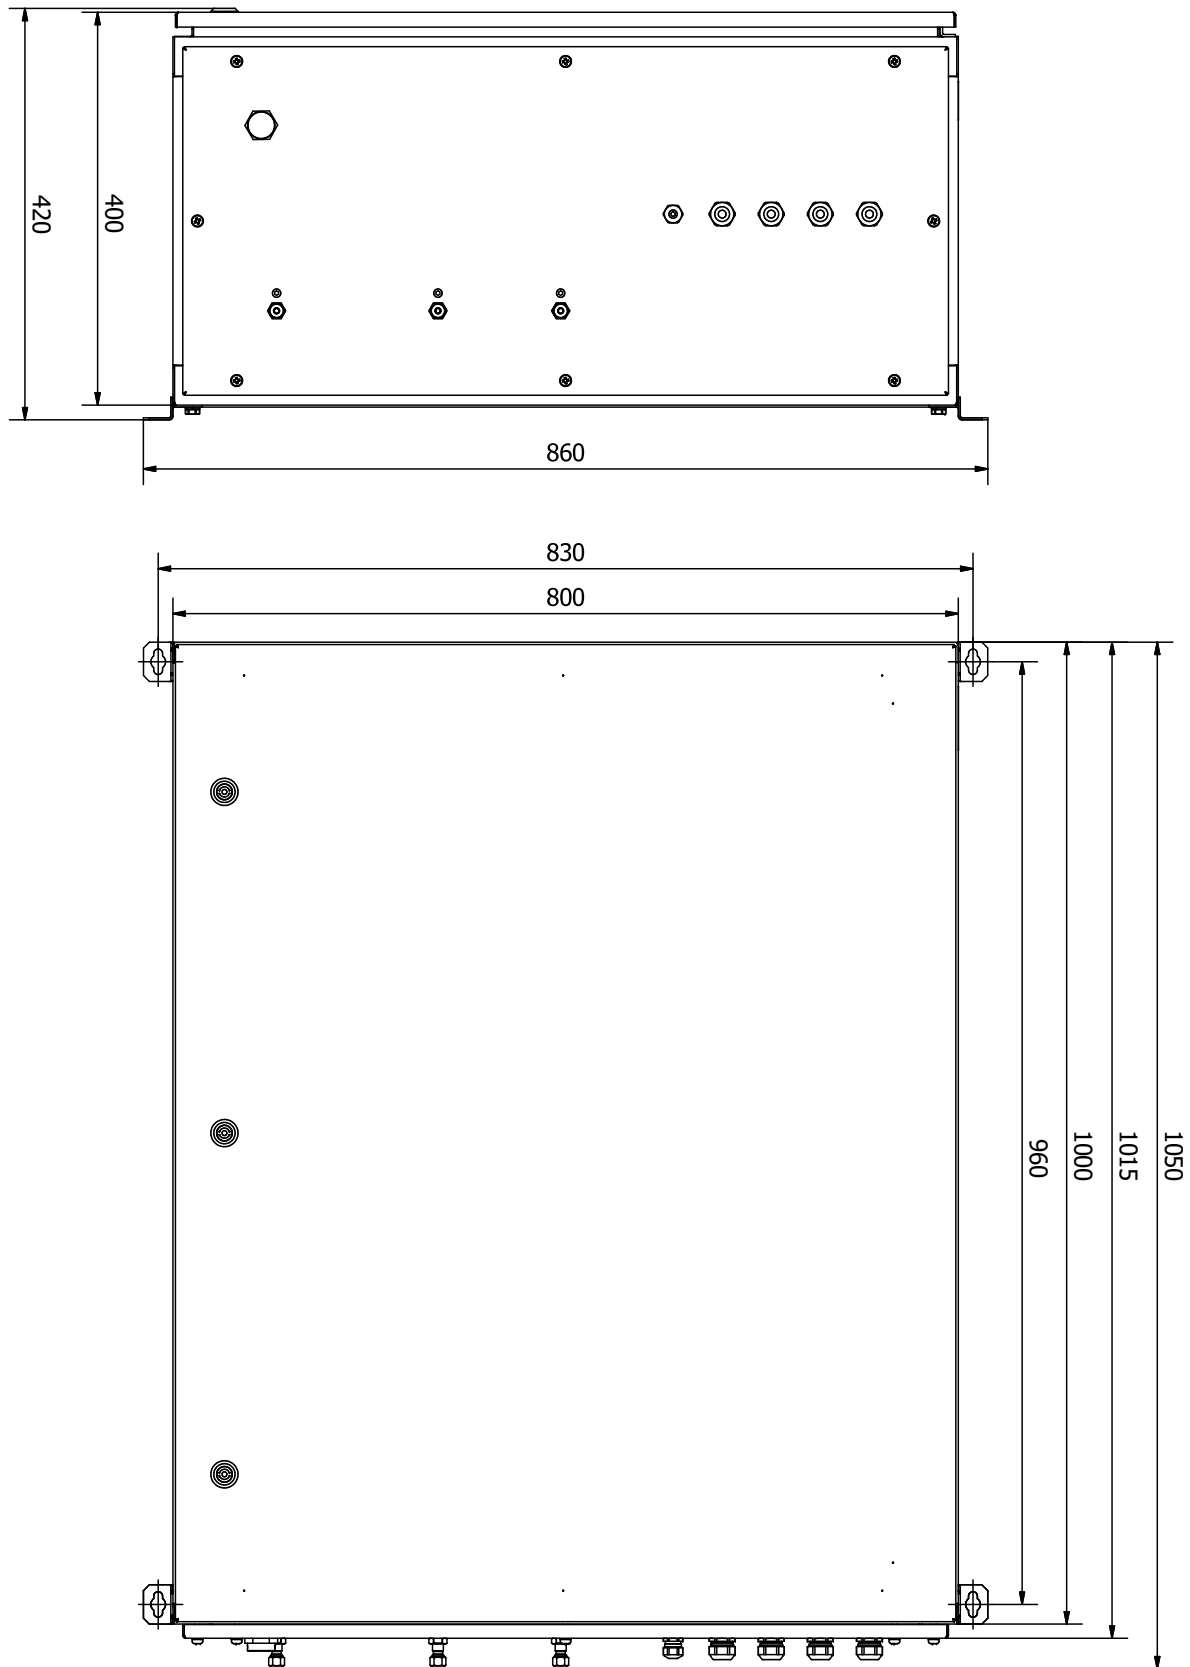

Figure 12 Diagram of GasEye Extractive Ex1 ET analyzer with dimensions
**Mechanical specification (Figure 12):**